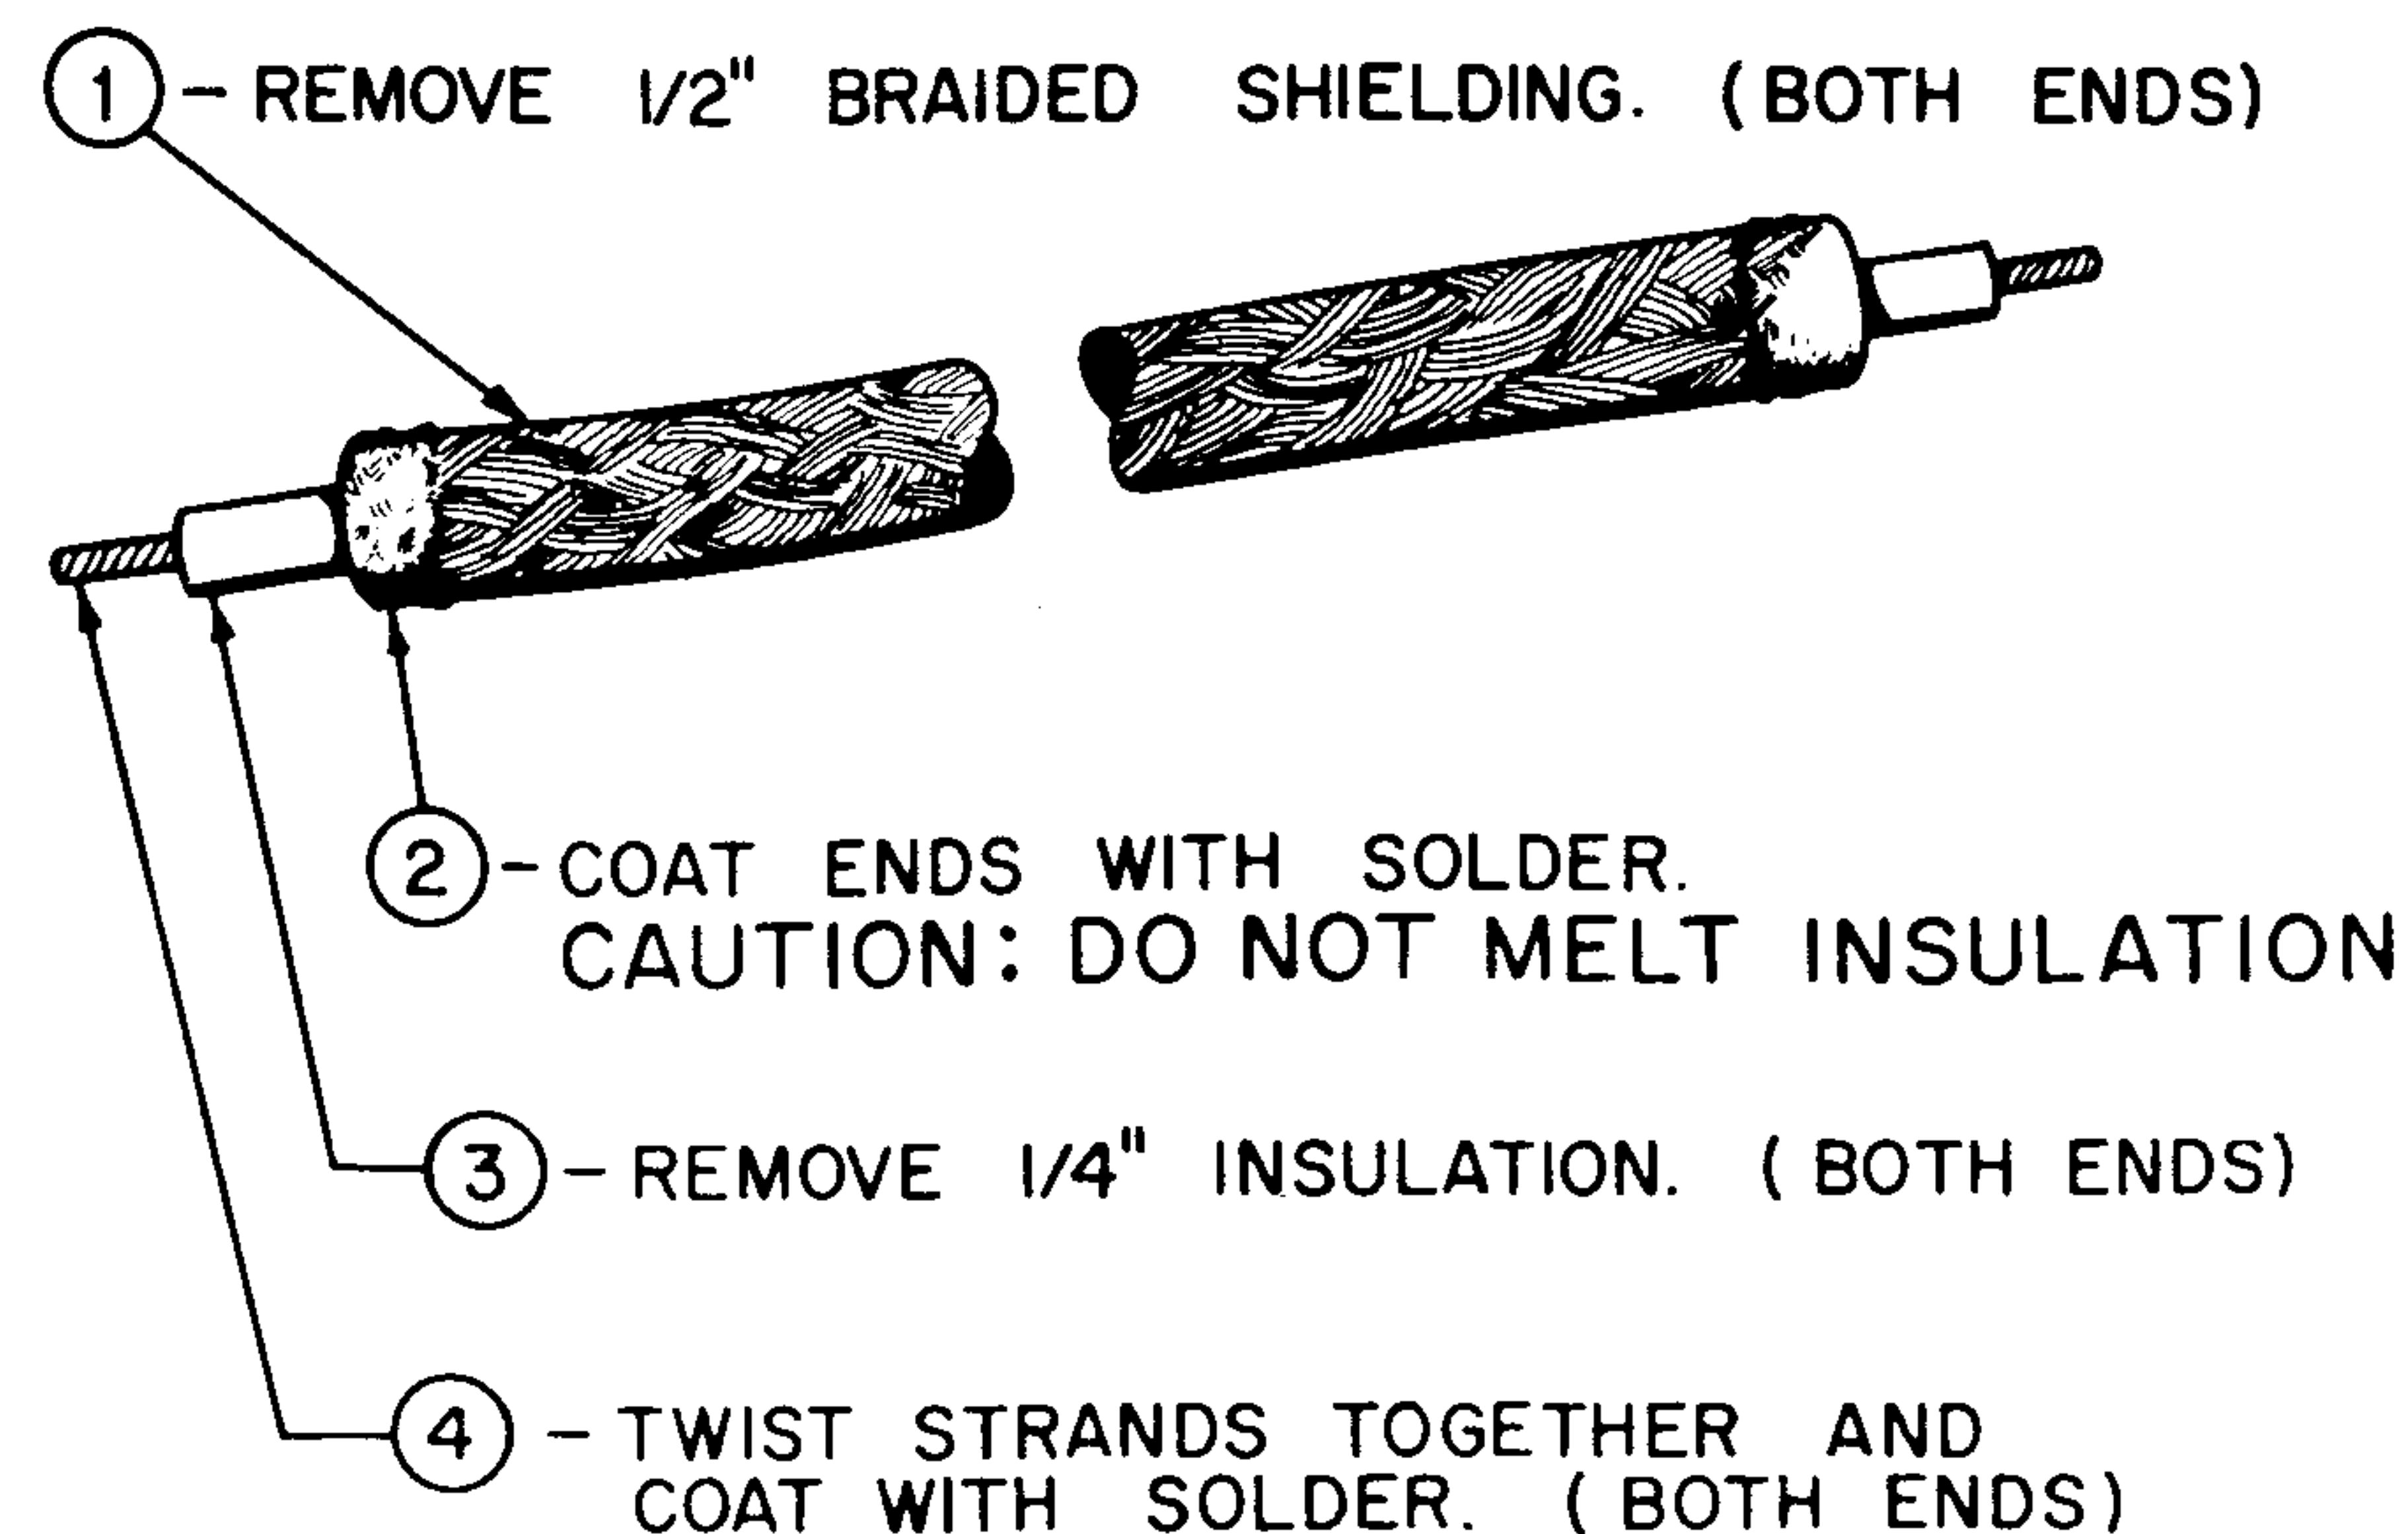

FIGURE 7. PREPARING UNINSULATED SHIELDED WIRES
- ☐ Cut an 8 1/4", an 8", and an 11 1/2" length of **uninsulated** shielded wire. Prepare as shown in Figure 7.
- ☐ Cut and prepare a 5" shielded wire as shown in Figure 7.
- ☐ Prepare a 6" uninsulated shielded wire as shown in Figure 7.